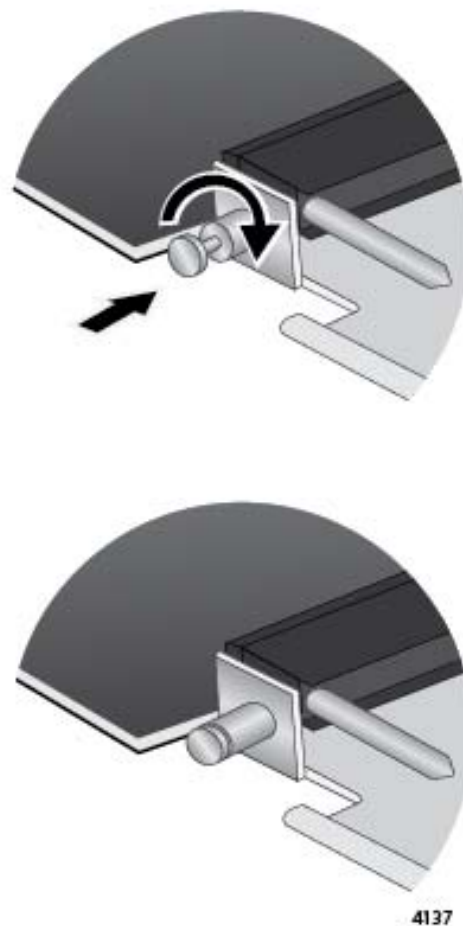

Figure 189. Releasing the Retaining Pin
11. Turn the retaining pin on the side of the card a quarter turn to release it. Refer to Figure 189 on page 306.